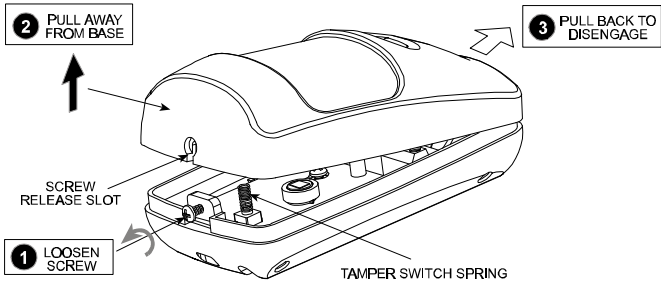

Figure 3. Cover Removal
1st. Remove the front cover as shown in Figure 3.
- Remove the front cover as shown in Figure 3.